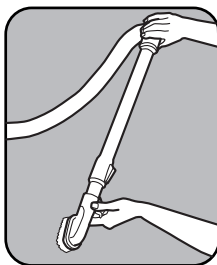

Fig. 2
2. Attach any of the on-board tools to the end of the wand or directly onto the hose cuff (Fig. 2) and (Fig.3).